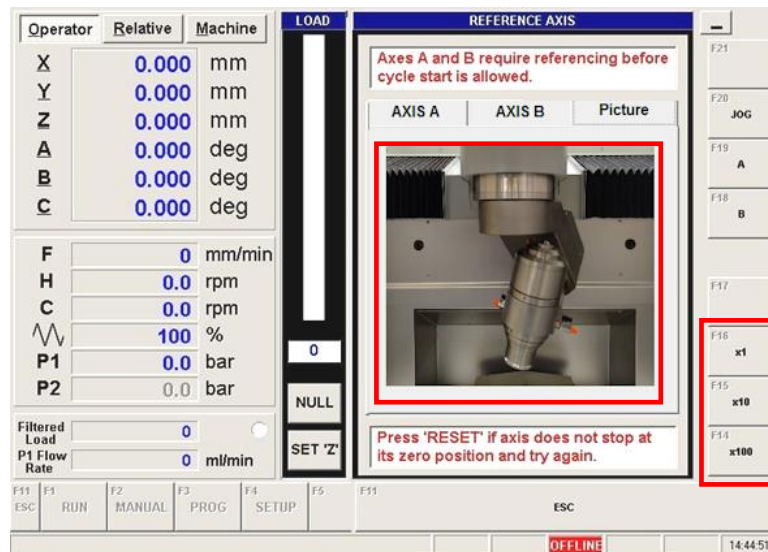

Figure 15 - Reference axes
2. Select the “REF' AXES” button as shown in *Figure 15 - Manually position A & B axes.*
The “REFERENCE AXIS” screen displays. See (Figure 15 - Reference axes).
3. Move both “AXIS A” and “AXIS B” to the position shown in the picture, by selecting the “MPG” button followed by either the “A” or “B” axis buttons and using the x1, x10 or x100 micron buttons and turning the “MPG” hand wheel accordingly. See (Figure 15 - Reference axes).